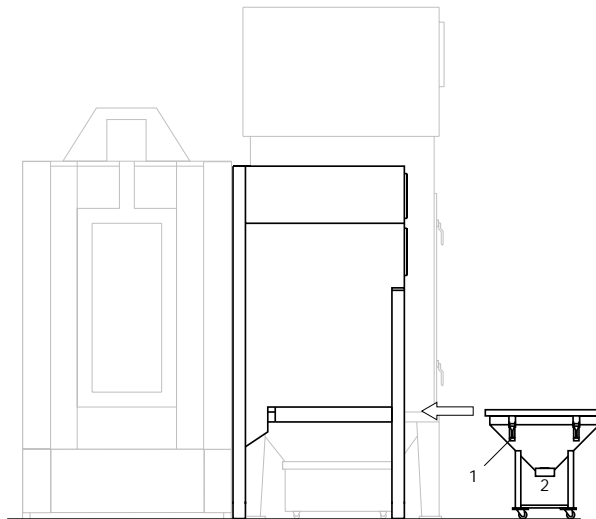

Figure 3
3. Hang in the toggle clamps (1 - Fig. 3) on the side and lock :
4. Fit the powder pump (2 - Fig. 3)